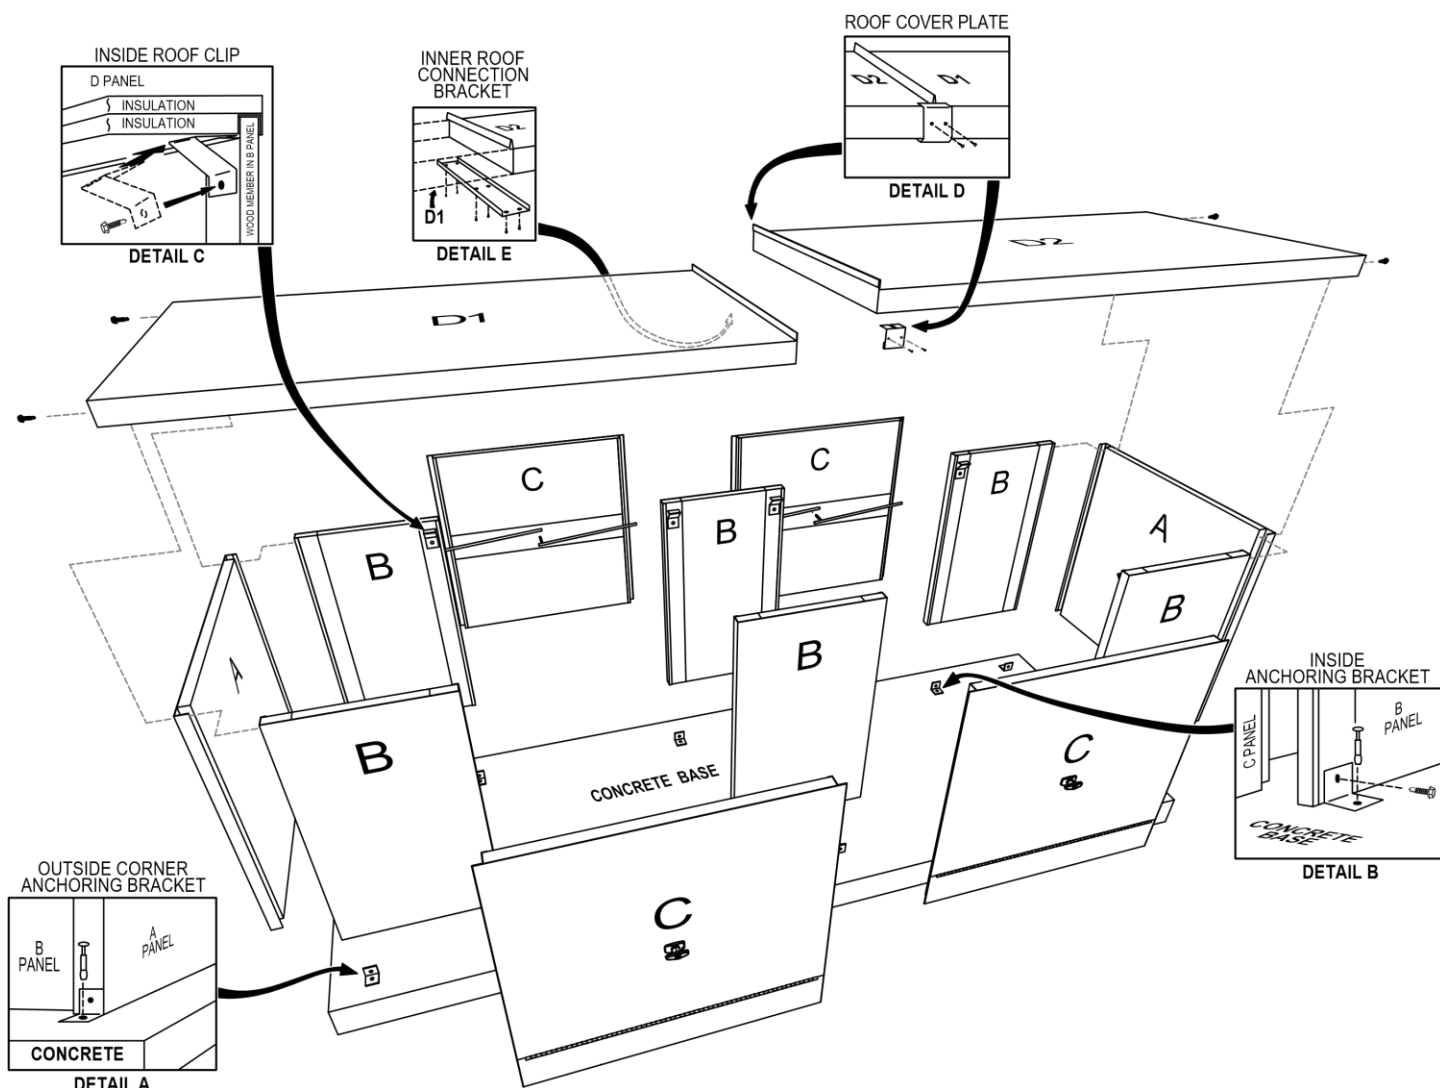

FIG. 2
6. Set the “D1” (roof) panel on a “B-A-B” (corner-end-corner) assembly, and then fasten it in place through the holes provided (Fig. 2) using two (2) Hex Head Screws.